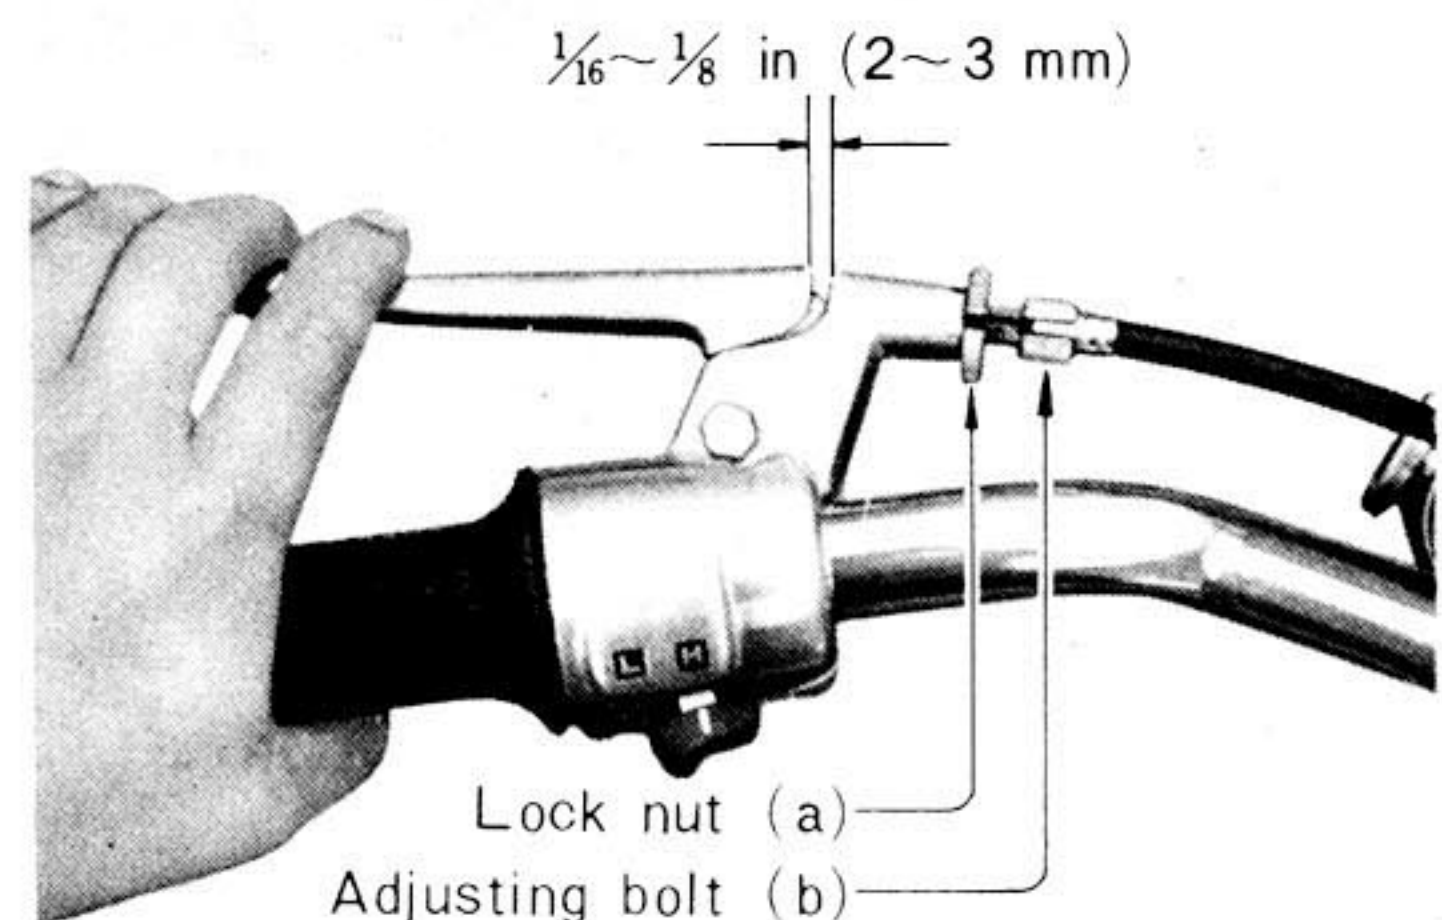

Fig. 4-9-15
Adjust clutch lever free play to 2~3 mm. (Fig. 4-9-15)
B. Adjustment on the upper part of the clutch cable. (Refer to Fig. 4-9-15).